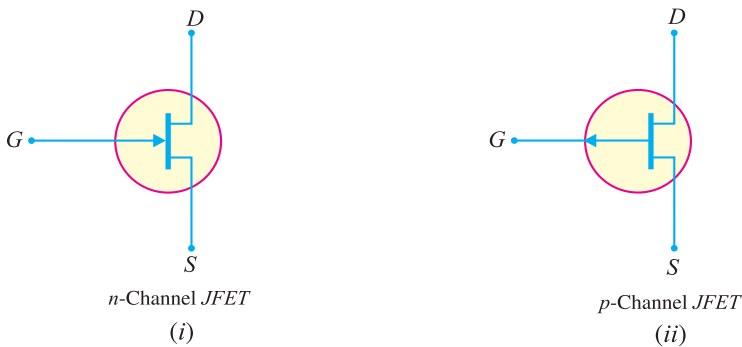

Fig. 19.4
Fig. 19.4 shows the schematic symbol of *JFET*. The vertical line in the symbol may be thought
as channel and source (S) and drain (D) connected to this line. If the channel is *n*-type, the arrow on the gate points towards the channel as shown in Fig. 19.4 (i). However, for *p*-type channel, the arrow on the gate points from channel to gate [See Fig. 19.4 (ii)].